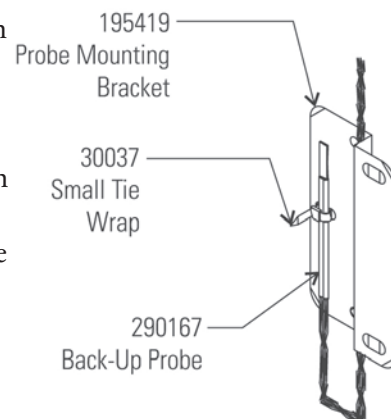

Figure 7-3. Probe
2. As in Figure 7-3, thread the small tie wrap through the openings in the front of the bracket. Secure the probe on the back of the bracket with the tie wrap.